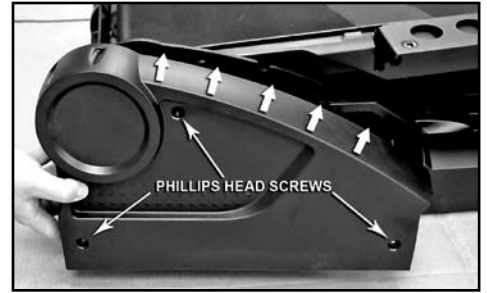

Figure 13-1
13-1 Attach the left and right Plastic Drive Covers to the sides of the base with (6) #10 Phillips Head Screws (3 per side) and the provided #2 Phillips screwdriver (See Figures 13-1). Install upper screw first.